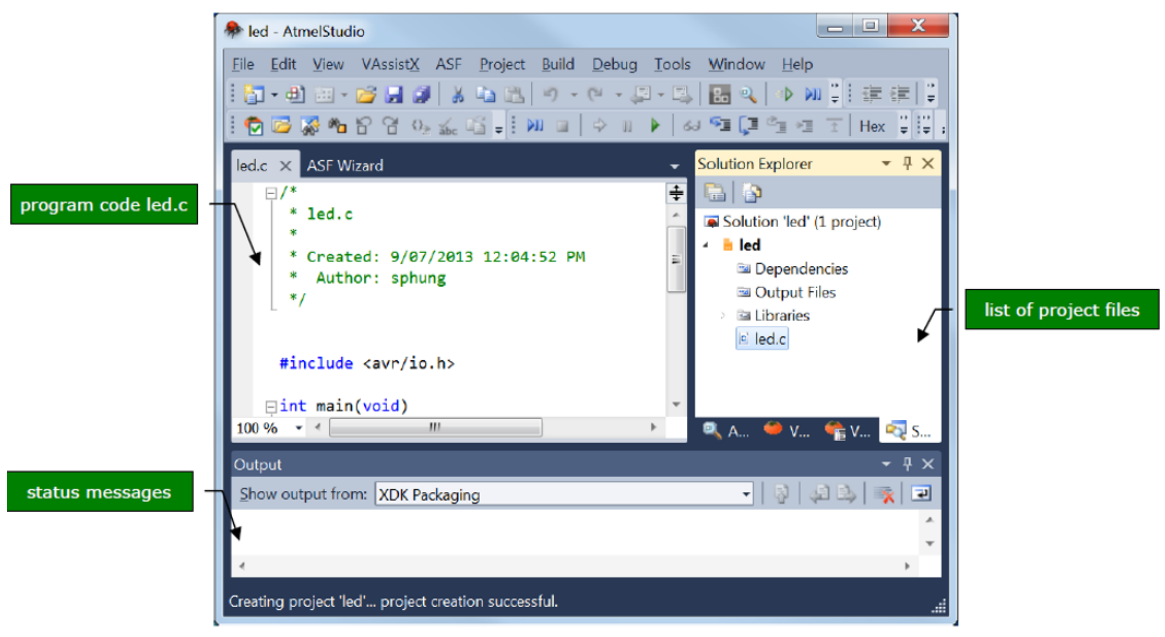

FIG 3. Atmel studio code editor
4. A Project will be created as shown in **Figure 3**